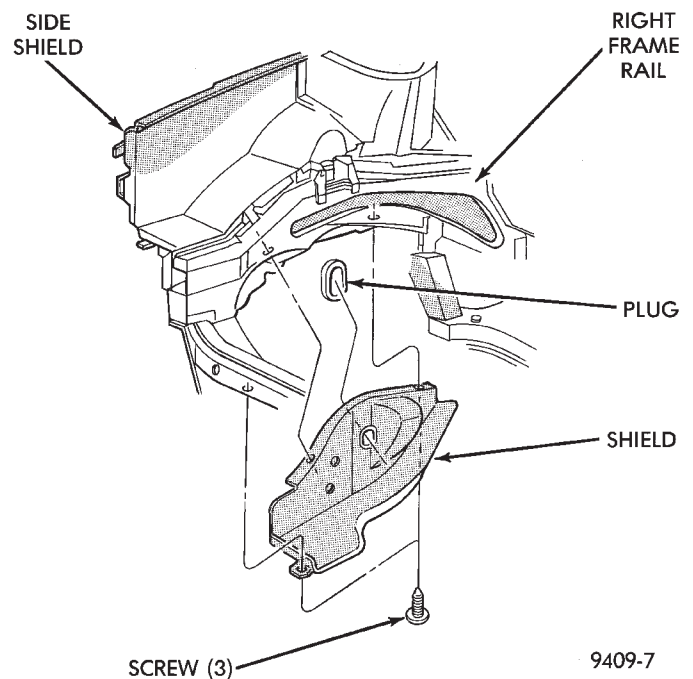

Fig. 41 Right Inner Splash Shield
(1) Remove accessory drive belts. Refer to Group 7, Cooling System for procedure outlined in that section.
(2) Raise vehicle on a hoist and remove right inner splash shield (Fig. 41).